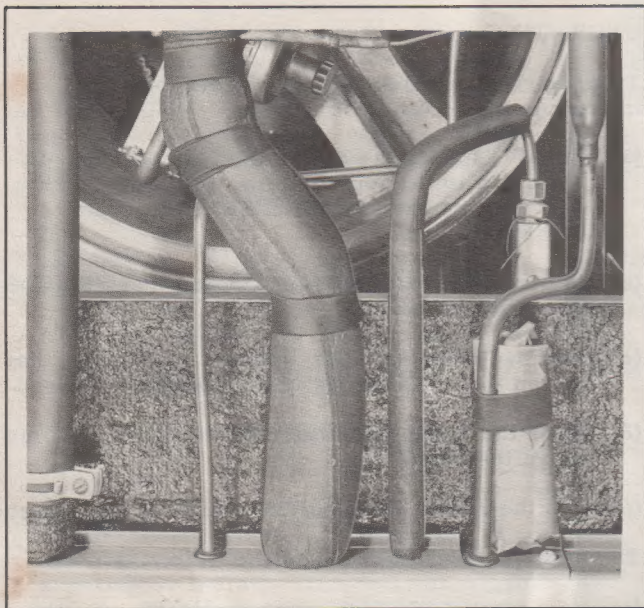

Fig. 5
- (b) The Float Ball is wrapped in paper and fastened to the Float Valve Support as shown in Fig. 5. Unpack the Ball and assemble it to the Float Arm.